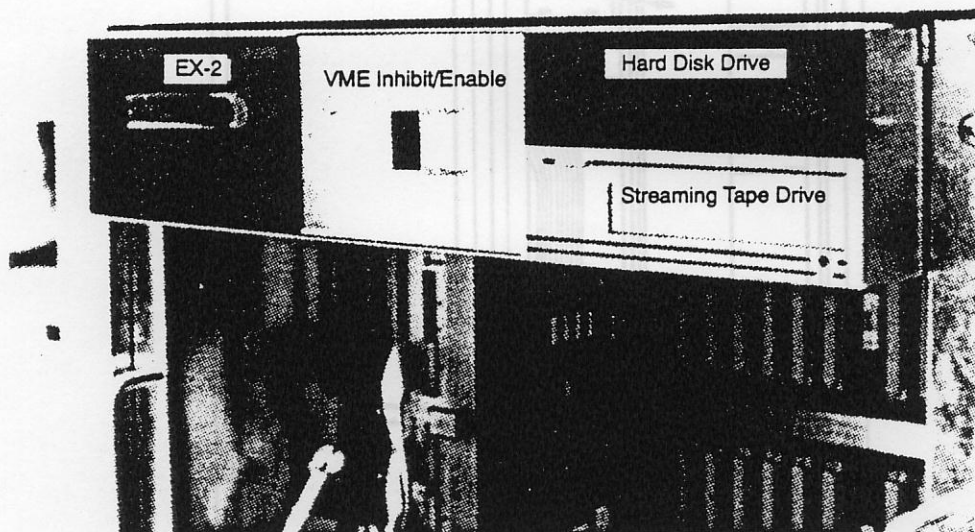

Figure 7-11. SCSI EX-2, Hard Drive, and Streaming Tape Drive
7. Remove the DC inhibit/enable button cover on the VME card cage to access the inner screws. Refer to Figure 7-11 while performing the next three substeps.